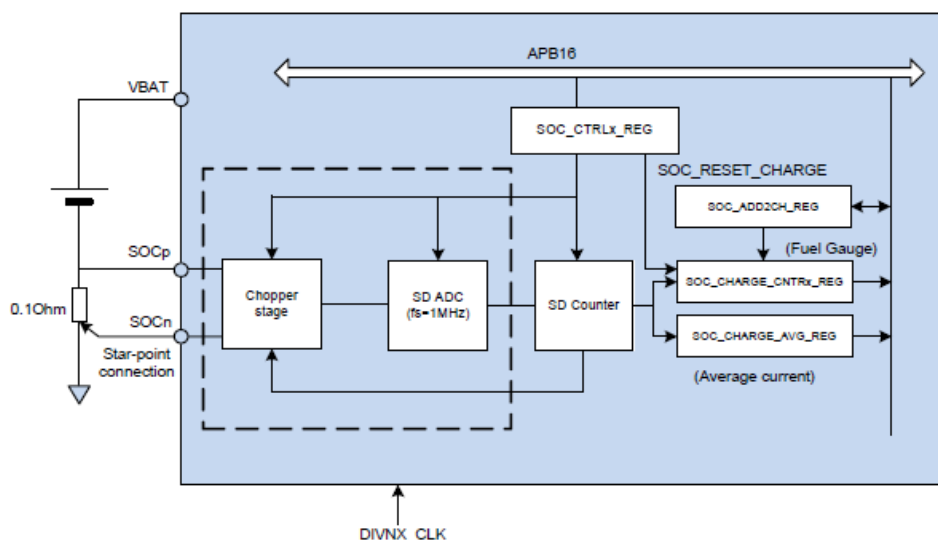

Figure 2: Fuel Gauge Circuit Block Diagram [1]
This is realized by the built in hardware fuel gauge (FG) circuit in the DA1468x. The block diagram of the circuit is shown in Figure 2. The main function of this block is to continuously integrate a voltage which is the result of a current flowing through a sensing resistor. The sensing resistor is recommended to have an accurate value of 0.1 Ω and is placed between the SOCp and SOCn pins. For more details of the circuit, please look in the DA1468x datasheet given in [1].